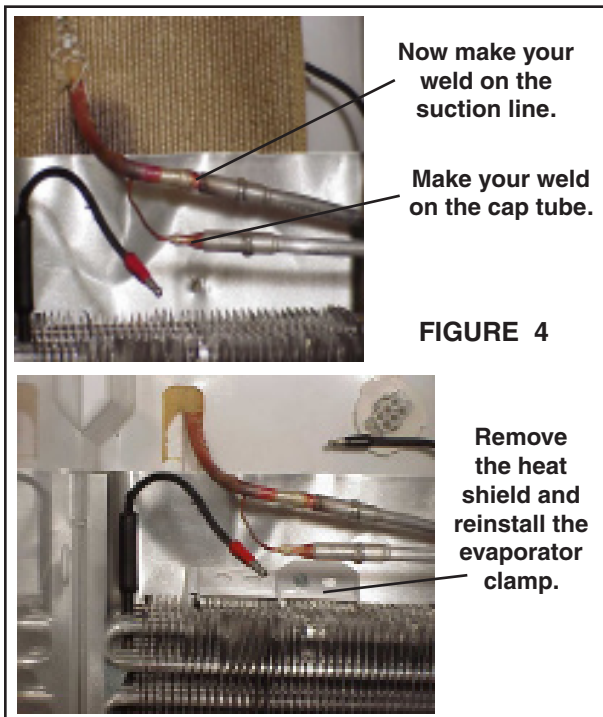

FIGURE 4
15. Push evaporator back in place and reinstall plastic clamp at top. (See Figure 4.)
13. The one piece cover can now be installed over heat exchanger. Place open end of cover with top of compressor compartment opening. Attach cover to back of cabinet using screws provided. There is no need to predrill holes as the screws are self cutting. (See Figure 4.)